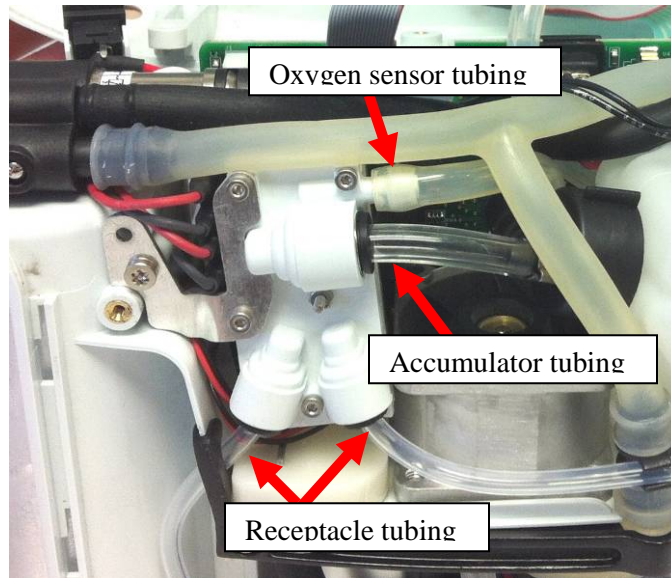

Figure 11: Product manifold tubing
3. Locate the four tubes connected to the product manifold (Figure 11). One tube, the oxygen sensor tube, is connected to the manifold by a barb and can be removed using a small flathead screw driver to slide the tubing off of the barb. The other three tubes are connected by quick connect fittings and can be removed by pressing inward on the retaining ring while pulling gently on the tubing. It is recommended that the bottom two tubes, the receptacle tubes, be removed first, so that the manifold can be pulled away from the chassis to allow more room to remove the remaining accumulator tubing as the barbs on the accumulator cap are very delicate and can easily be broken during removal of the tubing.